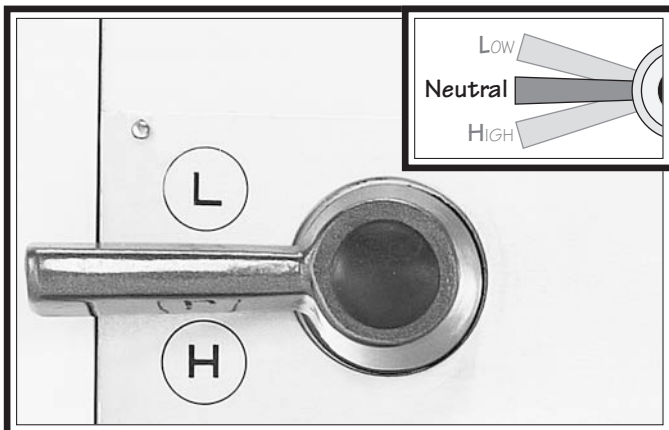

Figure 26. Gearbox range lever in neutral.
8. Move the gearbox range lever on the headstock to the neutral (middle) position to disable power feed, as shown in **Figure 26**.